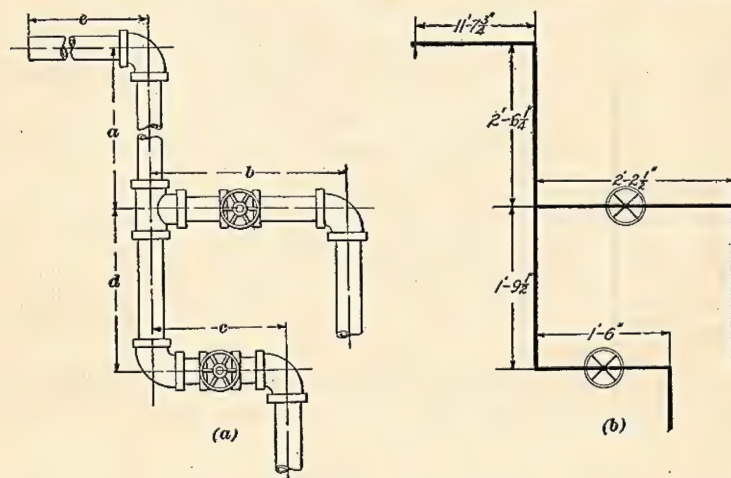

FIG. 20
29. When taking measurements for piping, the center-to-center distances of the different pipe lines are measured first, and then allowance is made for the fittings. Fig. 20 (a) shows a sample of pipework composed of four
elbows, one tee, two valves with wheel handles, and seven pieces of pipe. Where a valve is placed in a pipe, it is customary to consider the two pieces of pipe to which it is attached, and the valve, as one piece; this accounts for the statement that there are seven pieces of pipe. The dimensions marked a , b , c , d , and e are measured, and transferred for reference purposes to a sketch similar to that shown in Fig. 20 (b). In locating the valves, it is customary to use a ready-made nipple on one side, and then to cut a piece for the other side sufficiently long to obtain the proper length of b or c when the whole is screwed up.